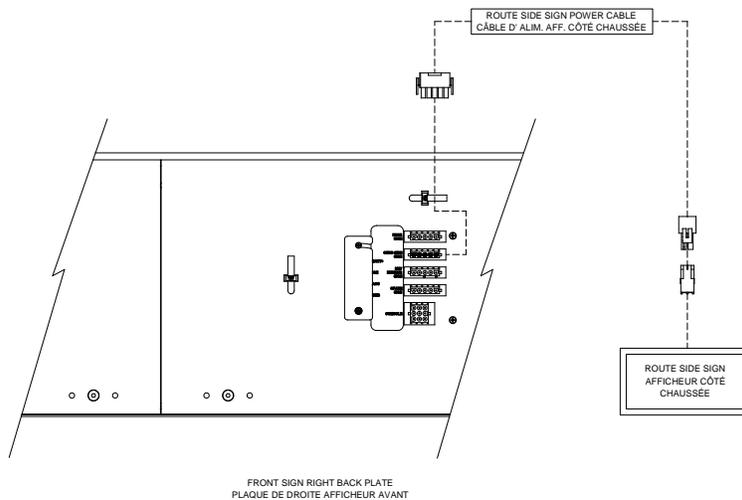

Figure 8: Route Side Sign Cable Connection
- Connect the power cable (5-pin connector) to the **ROUTE SIDE SIGN** connector (5-pin connector) located on the Back Plate of the Front Destination Sign (See Figure 8).